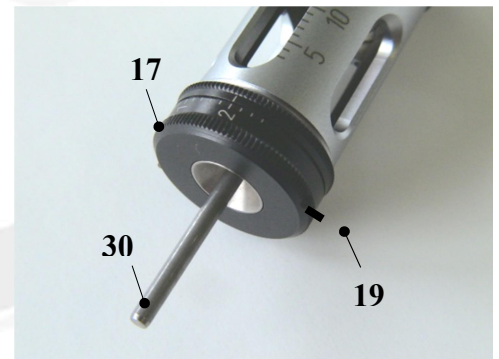

Fig. 24 Insert calibrating mandrel
- By rotating the centering scale (17), fully open the centering jaws (25) and insert calibrating pin (30). Then by rotating the centering scale (17) close the centering jaws as far as the calibrating pin (30). (Fig. 24)
- Loosen screw (19) (black) and set centering scale (17) to diameter **2 mm**. Retighten screw (19) (black) and remove calibrating pin (30). (Fig. 24)